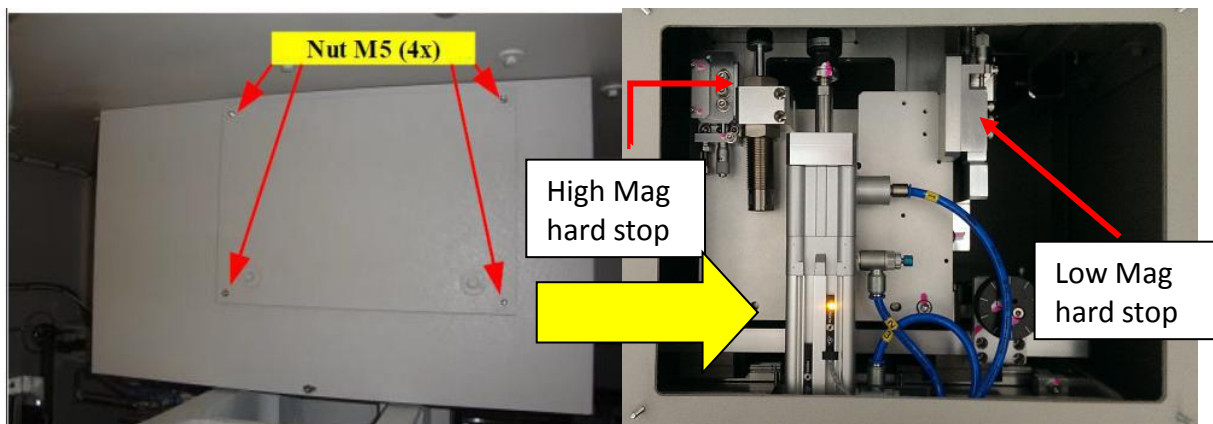

Figure 7 U-Shield Front Cover
10. Remove the U-Shield Front Cover with loosen 4 x M5 nuts as Figure 7. Left is High Mag hard stop and Right is Low Mag hard stop.